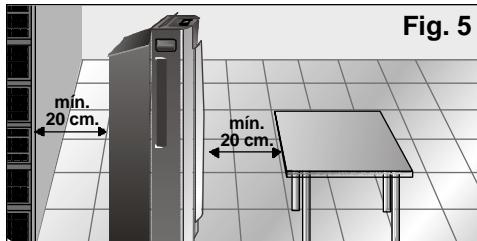

Fig. 5
- For safety reasons, the appliance must be at least 20 cm away from any nearby surface before it is turned on, **Fig. 5**.